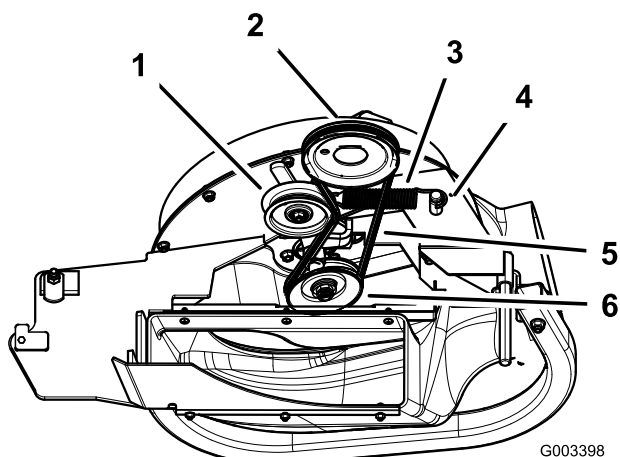

Figure 14
1. Install the belt around the blower pulley (Figure 14).
2. Install the spring to the idler arm and the peg on the blower assembly (Figure 14).